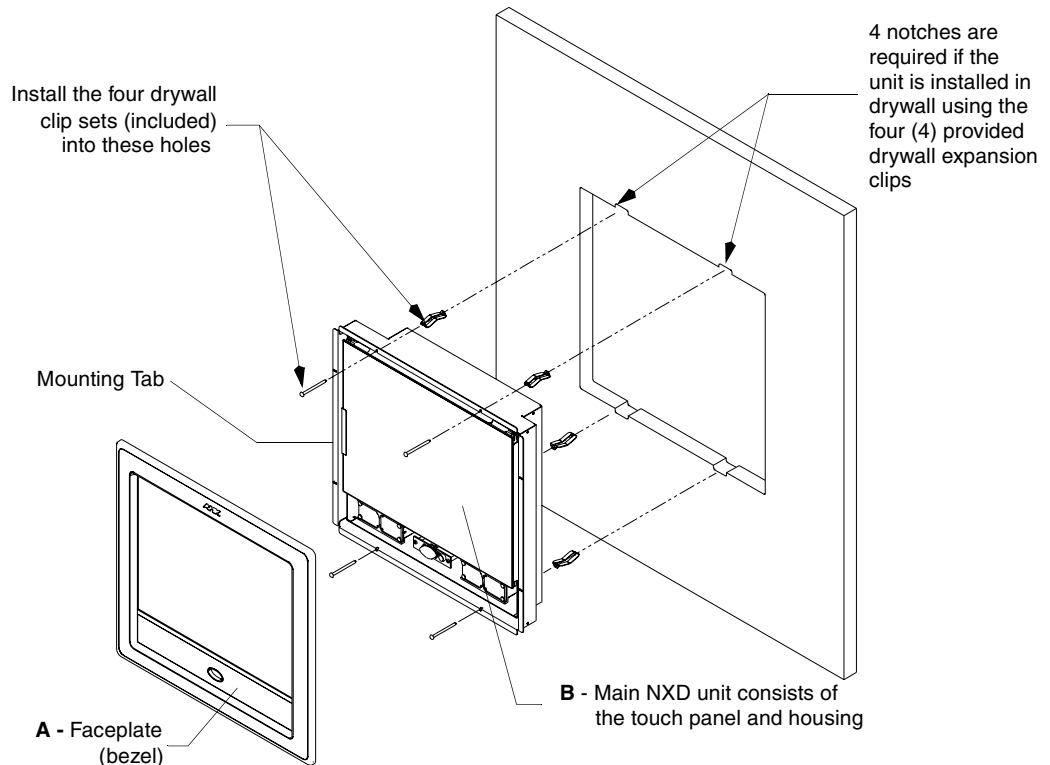

FIG. 39 Wall Mount panel (NXD) installation configuration for drywall surfaces
3. Remove the magnetic faceplate/bezel (A in FIG. 39) from the main NXD unit (B in FIG. 39) by gripping the faceplate and pulling with gentle outward force.
8. Insert the four sets of drywall screws and expansion clips into the four oval notch locations along the top/bottom edges of the main unit (FIG. 39).
9. Carefully insert the main unit (with expansion clips) into the cutout until the Mounting Tabs on the NXD unit lie flush against the wall (FIG. 39).
11. Place the magnetic faceplate (A in FIG. 39) back onto the main NXD unit (B in FIG. 39).